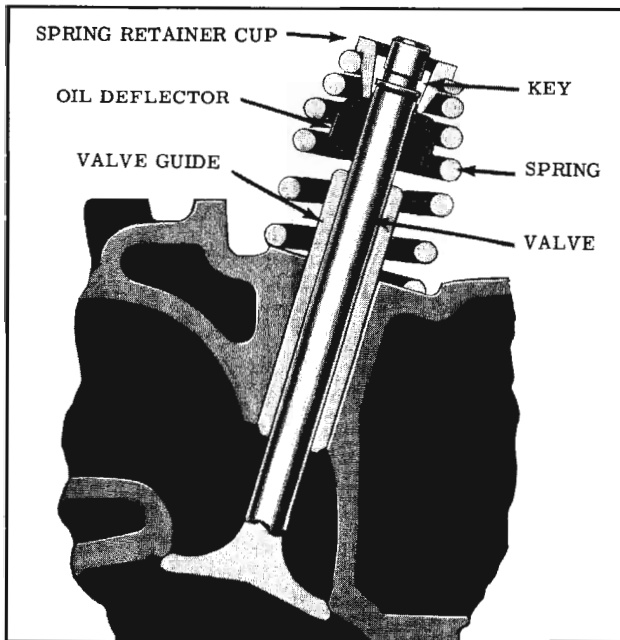
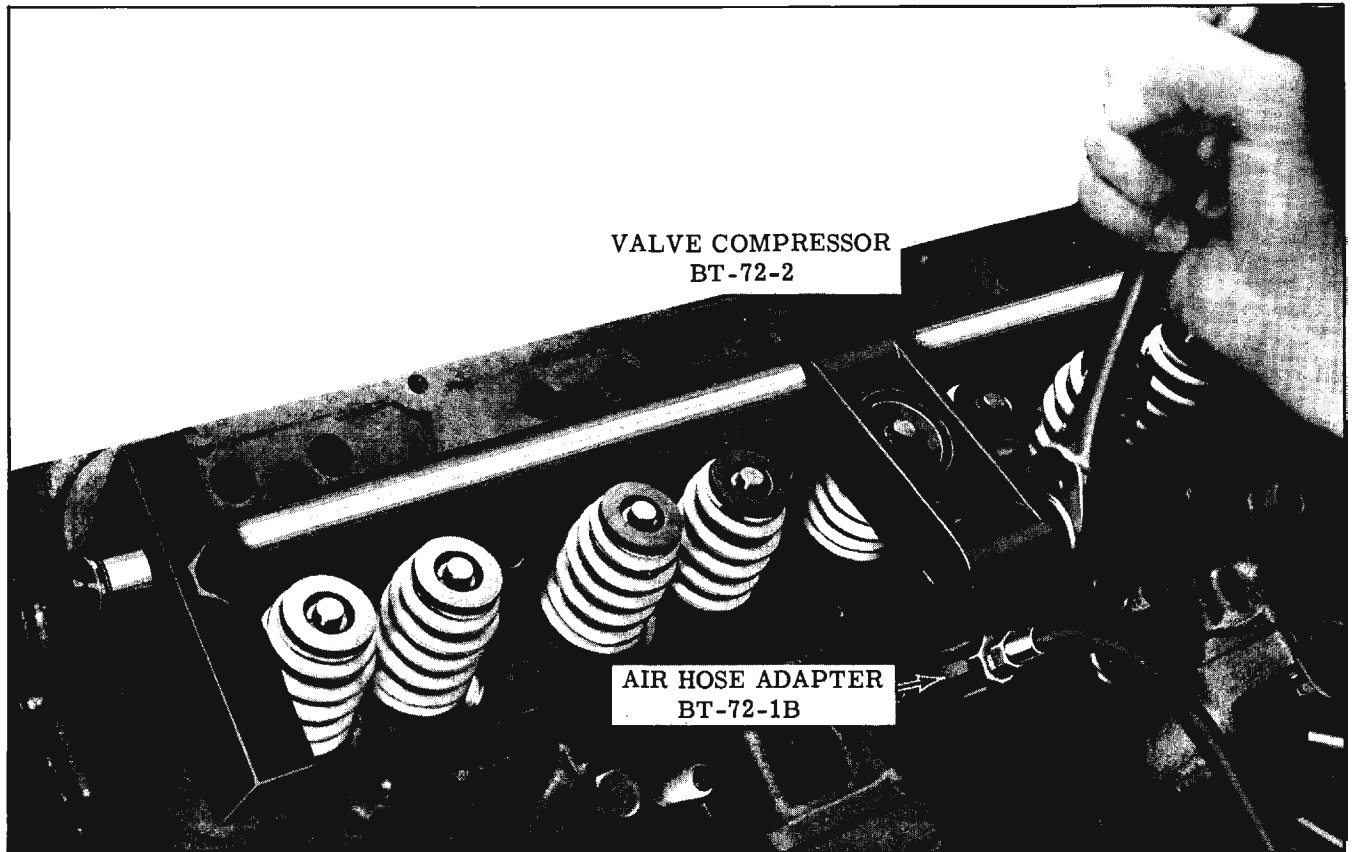

Fig. 8-7 Valve Assembly
Fig. 8-8 Compressing Valve Springs
3. Install valve compressor on cylinder head as shown in Fig. 8-8. Compress valve spring until valve keys are accessible, then remove keys, spring retainer cup and spring. (Fig. 8-7)
4. Remove valve spring retainer cups and springs. (Fig. 8-7) Keep all parts grouped so they can be installed on their original valves.